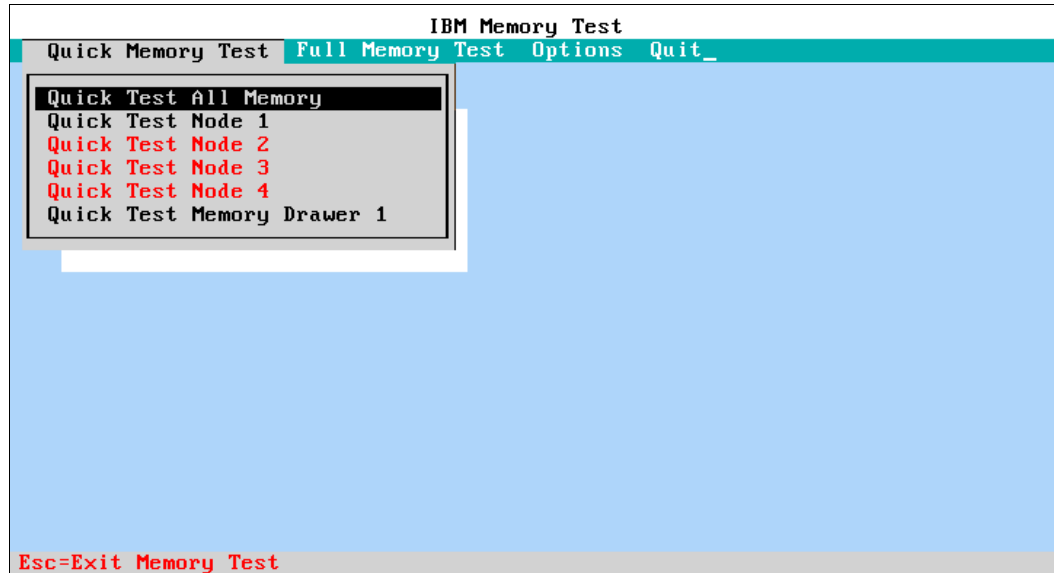

Figure 6-4 Start-up panel for the built-in diagnostics
2. When the built-in diagnostics start, they start the Quick Memory Test for all of the memory in the server, as shown in Figure 6-4 on page 228. You can stop the Quick Memory Test at any time and run a Full Memory Test, which runs the same test patterns multiple times and takes five times longer than the Quick Memory Test. The only time that you want to run the